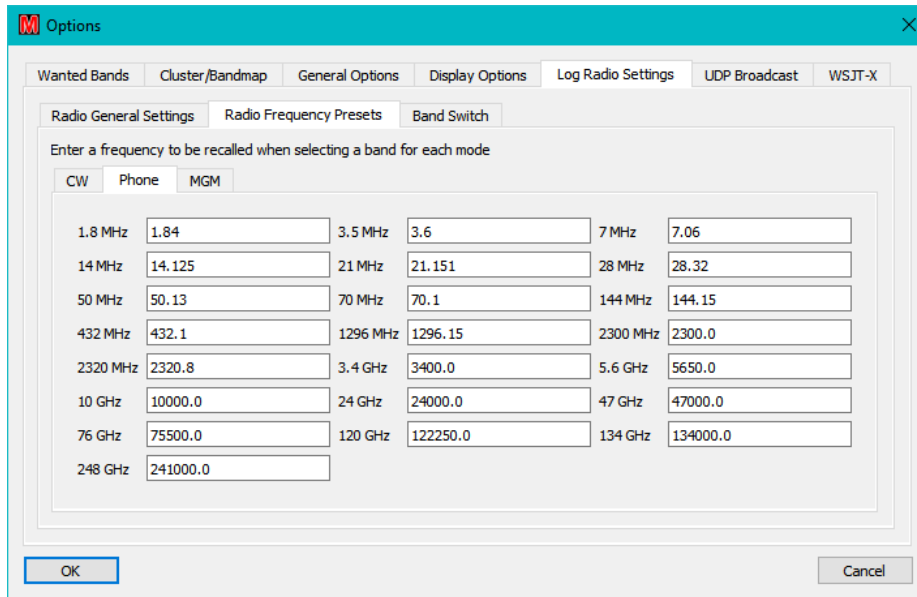
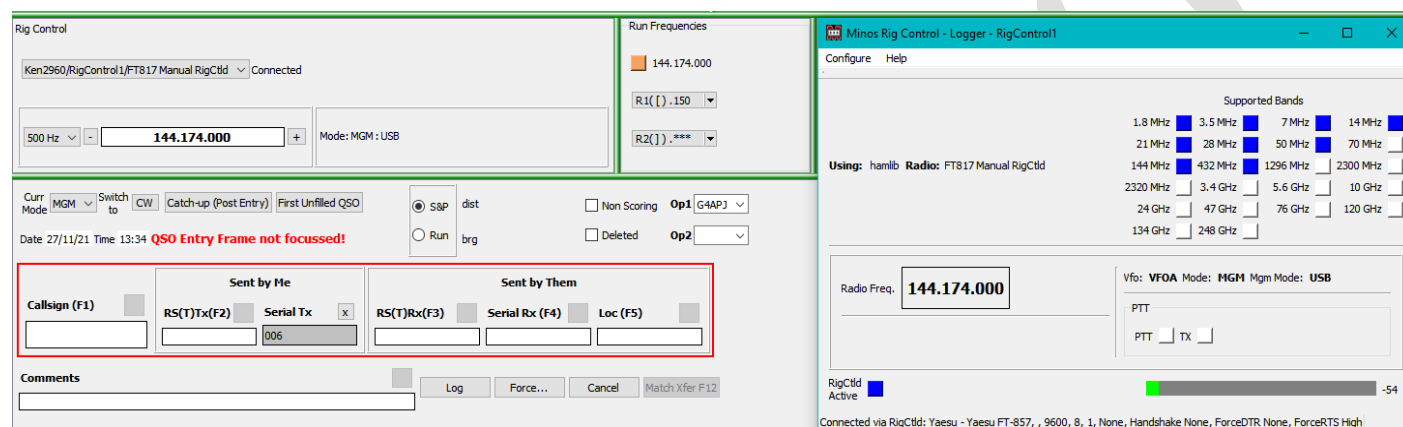
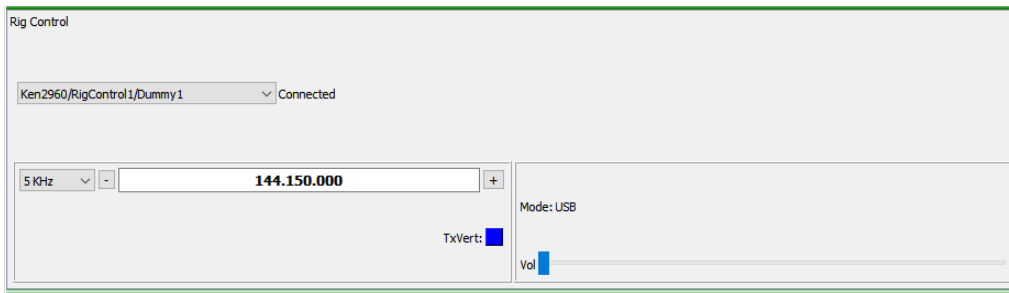

Figure 84 – Setup Band Frequency
Figure 86 – RigControl connected to Logger
Figure 89 – RigControl panel within Logger
The ‘**Radio Name**’ field is used within a contest to select (or display) which rig is currently being controlled (e.g. in Figure 86). Once defined, it may be changed using “**Edit Radio Name**” or removed (provided it is not currently active within the Logger) using the “**Remove Radio**” button.
- The ‘**Radio Frequency Presets**’ tab (Figure 84) displays the table of ‘base frequencies’ with a tab for each mode of CW/Phone/MGM. These define the frequency the rig goes to when a contest is opened or when a “**Quick Sel**” band change is made from the Rigcontrol panel of the Logger (Figure 86). The default
Once configured to operate in conjunction with the Logger a contest may utilise the rig selected within the application, and the RigControl panel becomes visible in Logger (see Figure 86). As can be seen, because the application is connected to the Logger, it shows ‘Logger’ in the title, together with the name assigned to the instance of the app being used they are using (RigControl, by default).
Within the RigControl panel (see Figure 89) on the top left is the name of the selected radio and its status which should normally be **‘Connected’** for correct operation⁷⁹.
If the selected radio supports RIT (through CAT) it can be enabled through the RigControl panel (see Figure 89) and it will then become visible in the RigControl panel within Logger (see Figure 15). **Turning it on (Figure 86)** then allows incremental tuning using the mouse wheel in the same manner as for the main frequency. A specific RIT frequency can also be entered, although that is unlikely to be very useful. There are a number of shortcut keystrokes available - listed in Figure 173.